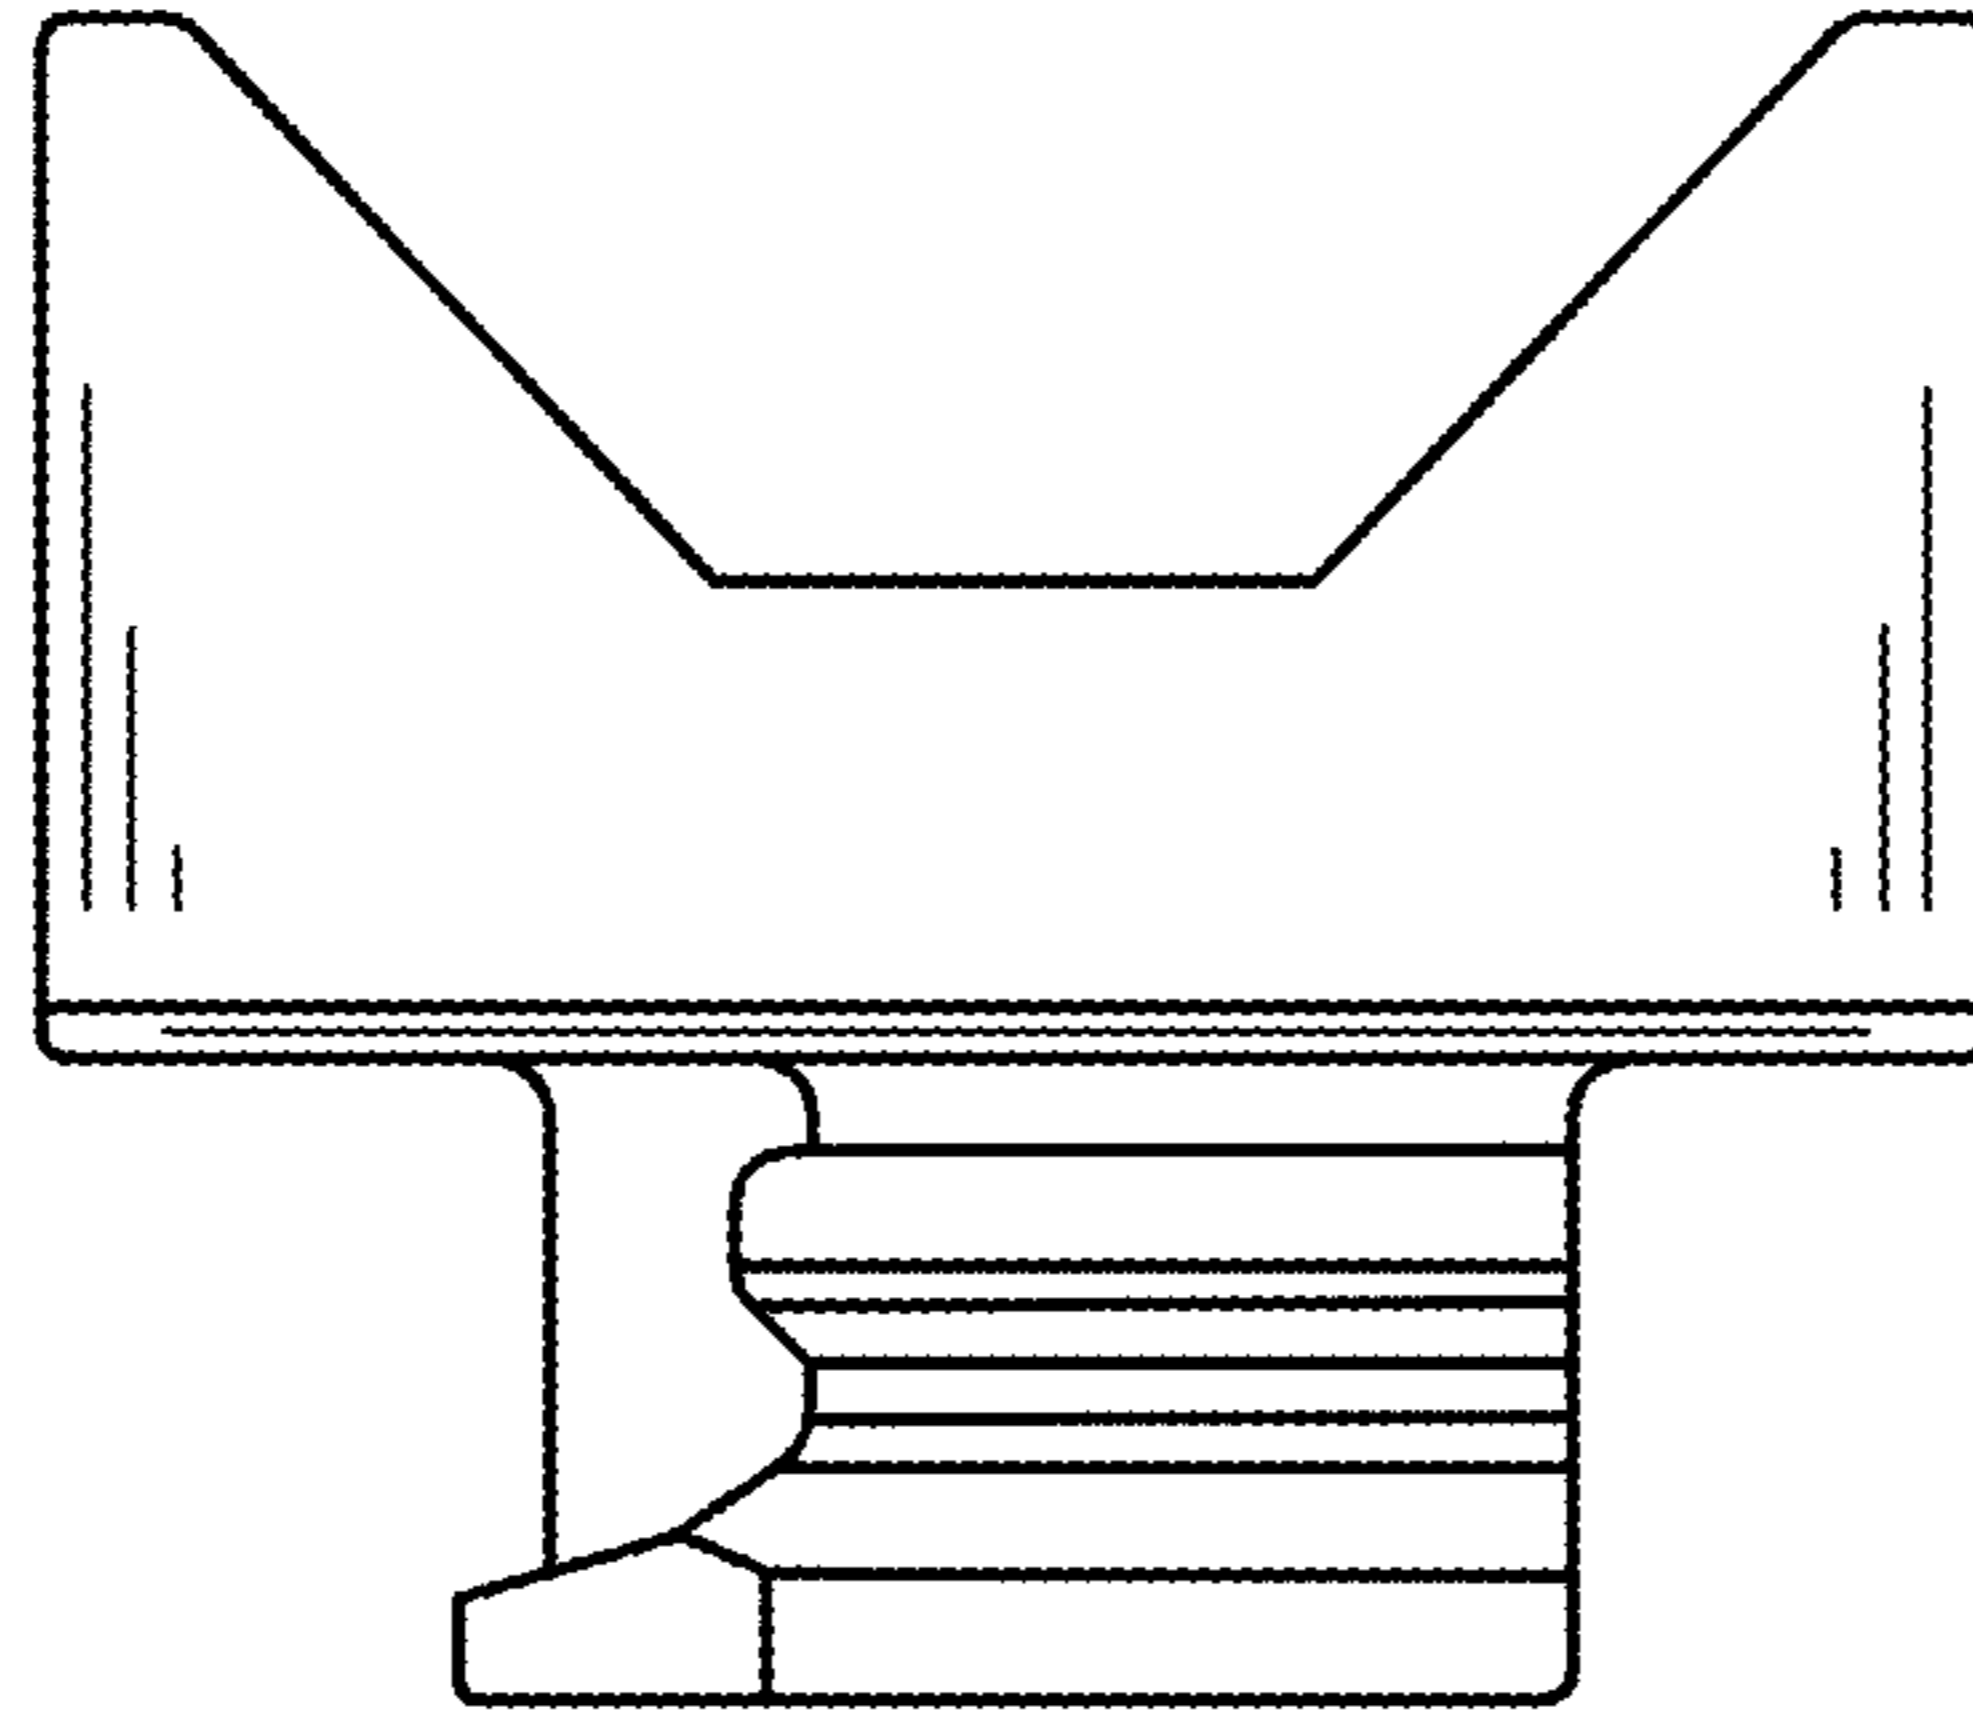

FIG. 3
- FIG. 3 is a right side view of the pipe clamp.